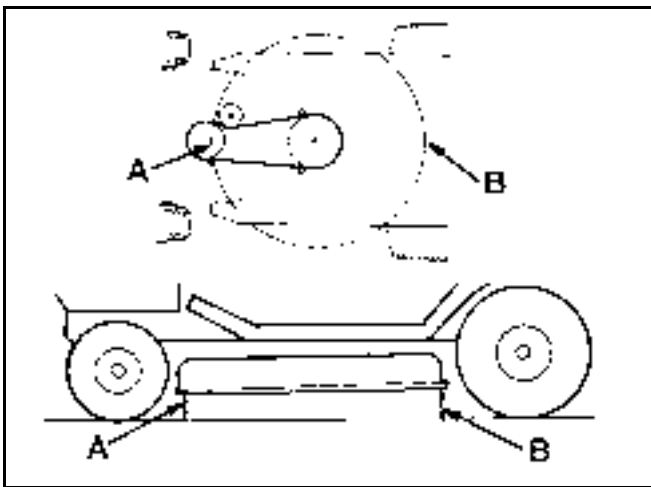

Figure 208
5. Check the front-to-rear blade slope by measuring between the bottom of the mower (front center and rear center) and the flat surface (Figure 208). If the front of the mower is more than 5/8 in. (16mm) lower than the rear of the mower, an adjustment is required; refer to steps 6-10.